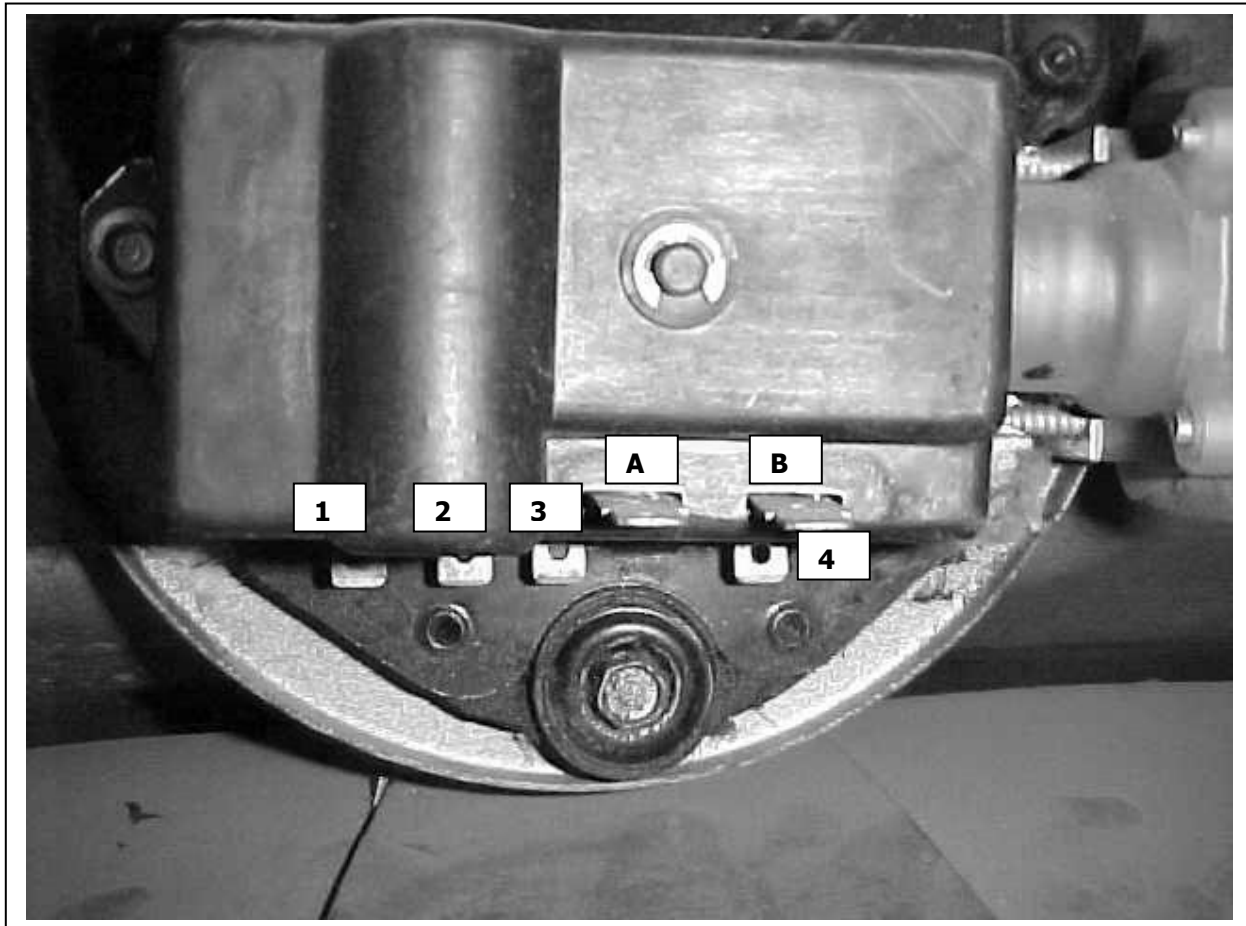

Figure 7.19 Wiper Motor
7.15.2 Routing it to the wiper motor. See **Figure 7.19** for installation.